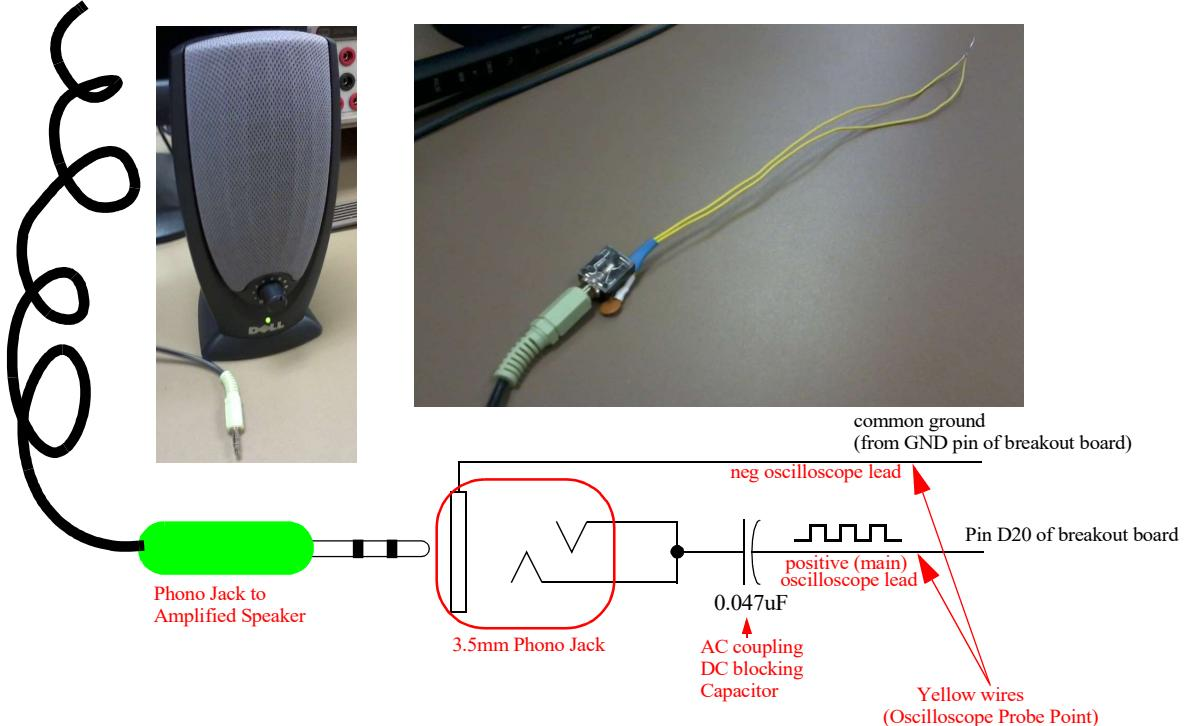

Figure 8: Clock Measurement Setup
- Obtain an amplified speaker and connect its male 3.5mm phono jack into the cable assembly that has been created for this experiment in the manner shown in Figure 8 below. This assembly is composed of a female receptacle that is connected to a simple DC blocking capacitor which allows AC signals to pass through.